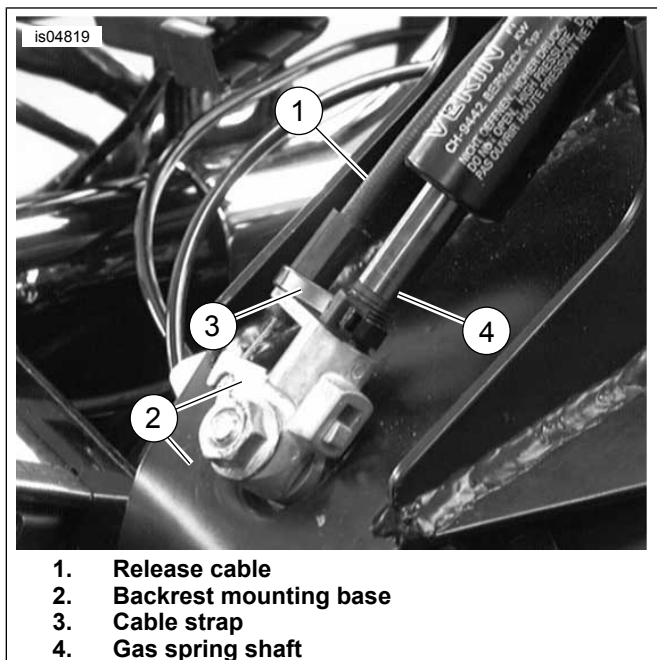

Figure 6. Attach Cable to Backrest Mounting Base
12. See Figure 6. Attach the release cable (1) to the backrest mounting base (2) as shown. Carefully secure the cable to the shaft of the gas spring (4) with the provided cable strap (3). Do not over-tighten the cable strap.